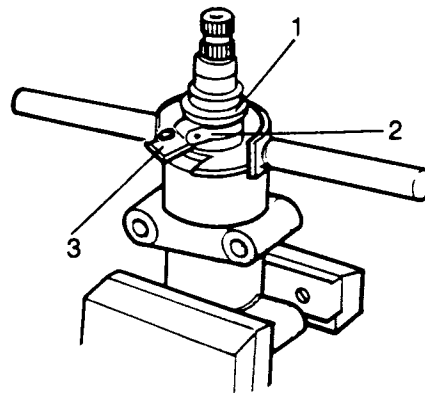

Fig L5.15
- (9) Refer to Fig L5.15. Locate the other split bush (1) in position on the bottom cone of the shaft and secure with a 50 mm hose clip (2).
- (10) Remove the special tool and the seal retainer fixing bolts (3).
- (11) Remove the assembly from the vice and gently tap the shaft into position until the split bush has entered the housing for at least half its length.
- (12) Remove the hose clip and continue to tap the shaft into the housing until the bushes are correctly located in the housing.